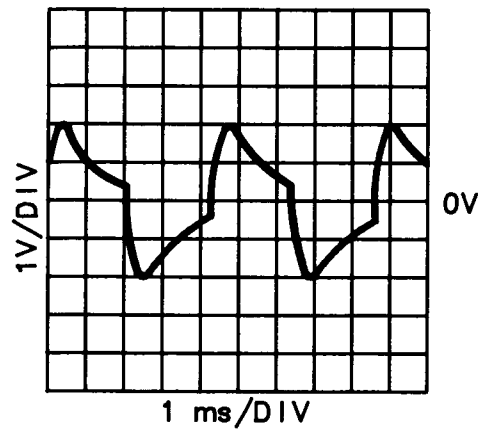

Figure 8-6. A4TP17 Variable Gain Amplifier Waveform
- 10. Connect the oscilloscope to A4TP17. Verify the signal shown in Figure 8-6. The signal level should be between 2.00 and 11.00 V_{p-p}.